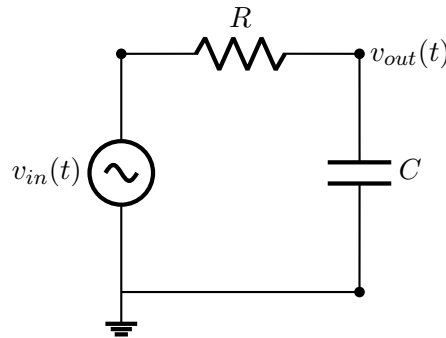
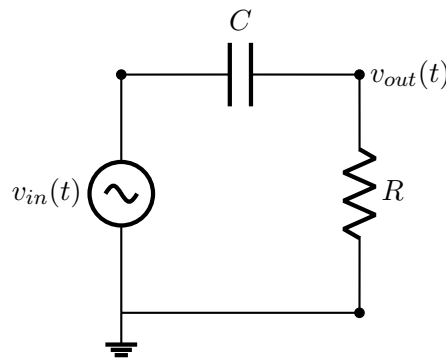

Figure 3.1: First-order RC low-pass filter
Figure 3.2: First-order RC high-pass filter
The circuits of the RC low-pass and high-pass filters are shown in Fig. 3.1 and Fig. 3.2 respectively.
1. Connect the circuit as shown in Figure 3.1 (repeat later for Figure 3.2).